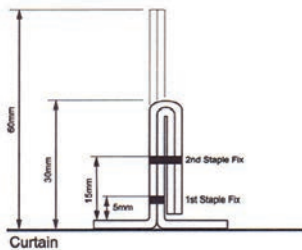

Figure 2
- Loose fix the top edges of the curtain at 300 mm centres, to the underside of the soffit. Using 65 x 6 mm diameter "sleeve" anchor bolts and 38 mm diameter washers. N.B. All overlaps running vertically, to be 60 mm as shown in figure 2.
- Fix vertical seams at 60 mm centres, 5 mm away from the face of the curtain and staple the vertical seams using zinc coated P40 staples (see Figure 2).
- Fold over all 60 mm overlaps in half to form a double overlap and staple together as before, at 60 mm centres, 15 mm away from the face of the curtain and at a 30 mm stagger to the first fix positions, as shown in Figure 2.